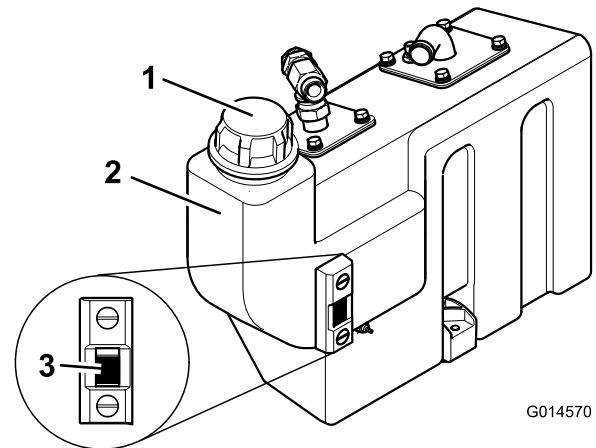

Figure 26
3. If additional hydraulic oil is needed, clean the area around the filler neck and the cap of the hydraulic tank (Figure 26) and remove the cap.